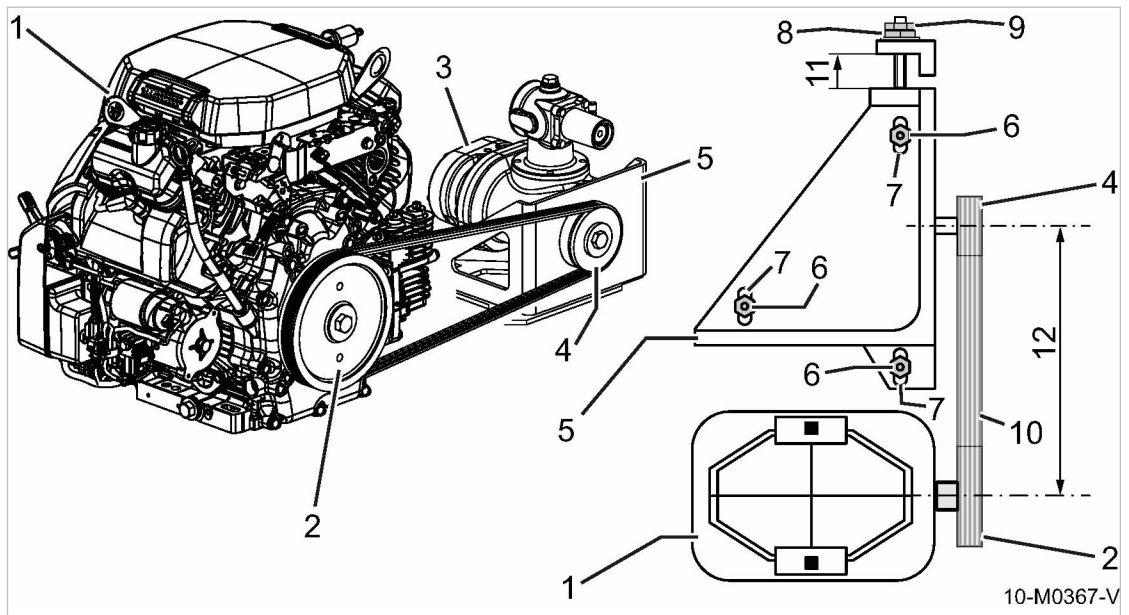

Fig. 24 Belt tensioning
To tension the belt, the airend with pulley unit is adjusted on a tensioning device (5) that is equipped with oblong holes (see Fig. 24).